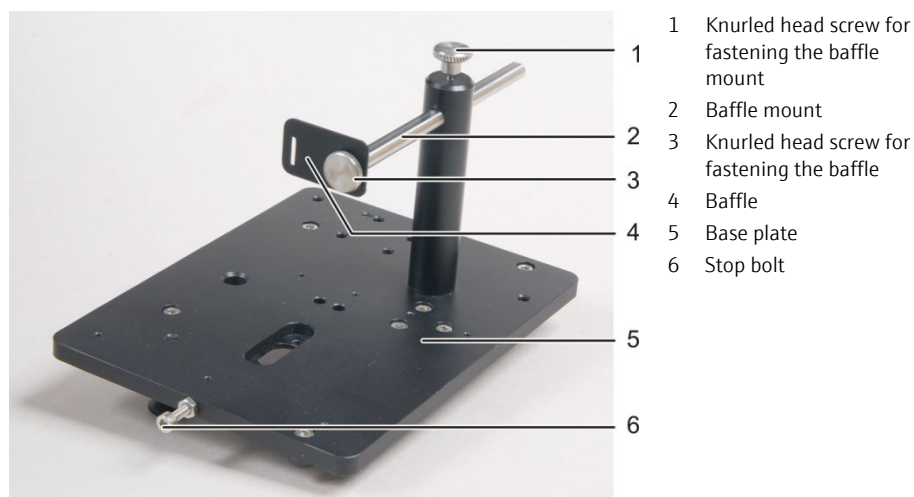

Fig. 108 Base plate with baffle
3. Loosen the knurled head screw (1 in Fig. 108) and slide the baffle as close as possible to the sample. Tighten the knurled head screw.
- Loosen the knurled head screw (2 in Fig. 108) and slide the baffle until the optical beam hits the sample optimally.